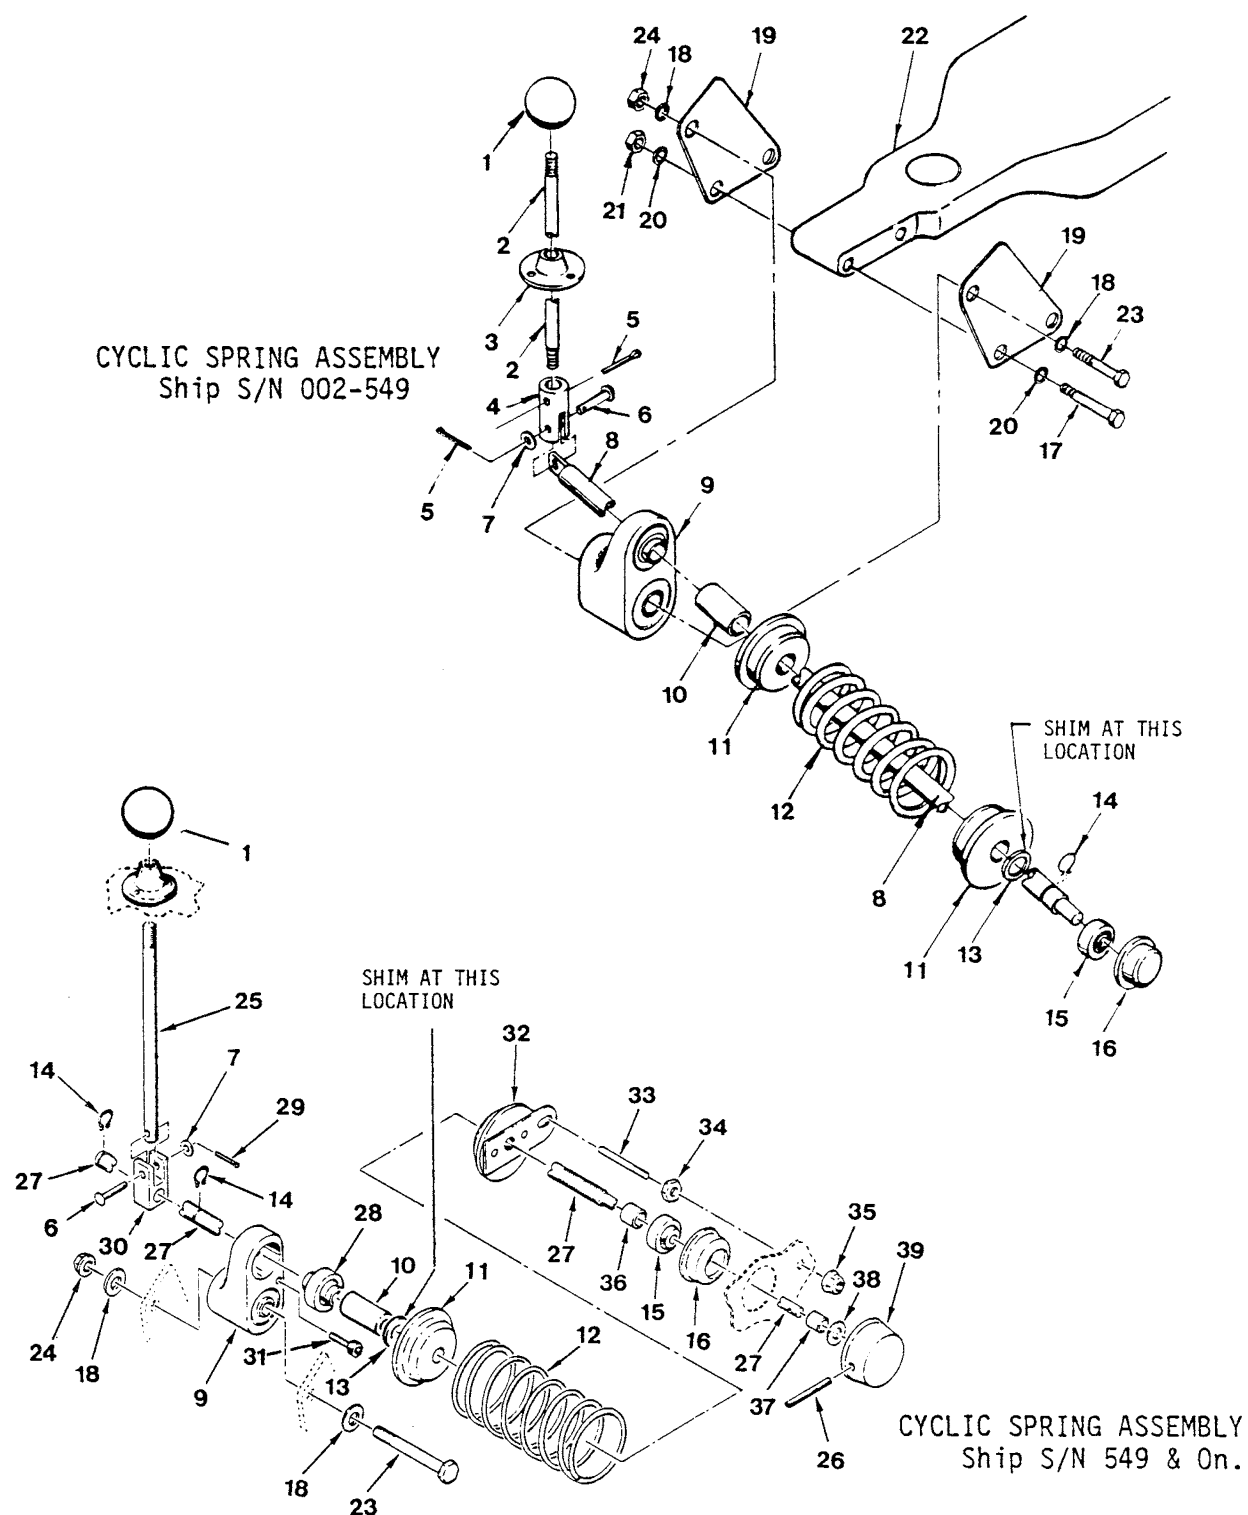

FIGURE 8-4 RIGHT TRIM ASSEMBLY
8.133 Right Trim Spring Replacement & Shimming (See Fig. 8-4)**a) Spring Replacement**
- b) Shimming Right Trim Spring (See Fig. 8-4)